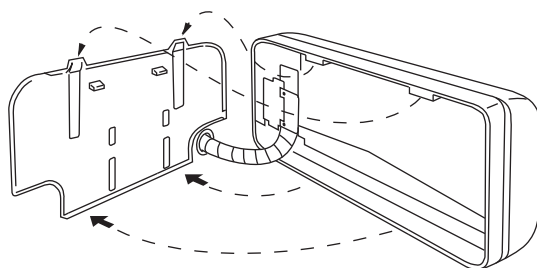
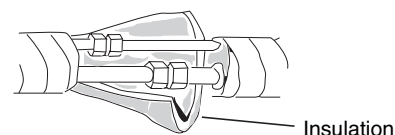

Fig. 36
Fig. 37
- (2) Push the wiring, refrigerant tubing, and drain hose through the hole in the wall. Adjust the indoor unit so it is securely seated on the rear panel. (Fig. 36)
- (3) Carefully bend the tubing (if necessary) to run along the wall in the direction of the outdoor unit and then tape as far as the fittings. (See Caution on page 10 or 15 in the outdoor unit installation manual.) The drain hose should come straight down the wall to a point where water runoff won't stain the wall.
- (4) Connect the refrigerant tubing to the outdoor unit. (After performing a leak test on the connecting part, insulate it with the tubing insulation. (Fig. 37)) Also, refer to Section 3-6. Tubing connections in the outdoor unit installation manual.
- (5) Assemble the refrigerant tubing, drain hose, and inter-unit wiring as shown in Fig. 37.